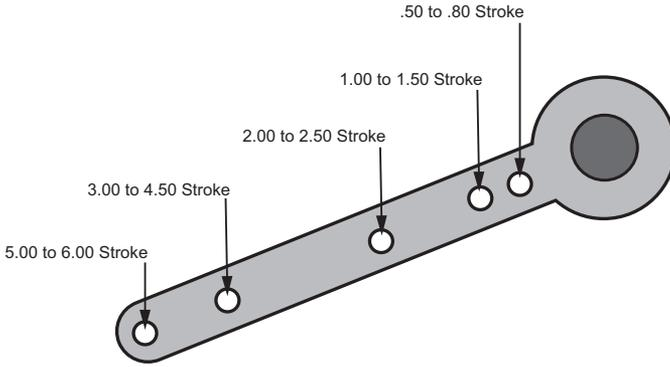

Figure 19 - Stroke Settings
3. Set rod-ends and brackets to stroke and size of actuator. The default setting is a 4.00" stroke. Other stroke settings are as in Figure 19.